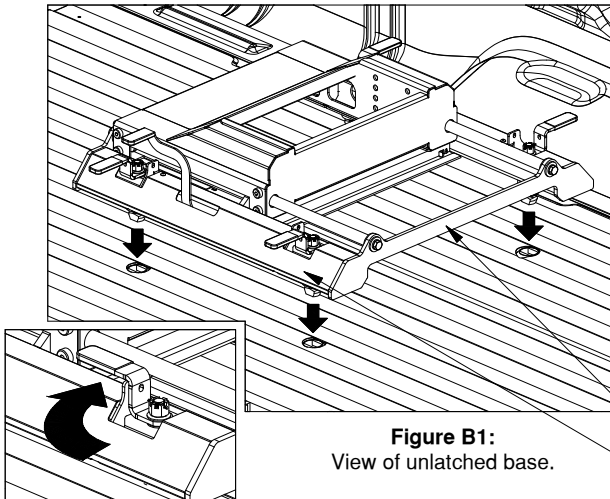

Figure B1:
CAUTION: Lifting the slider base under the sheet metal covers may cause damage to the base, grip base by end rail supports to lift, see Figure B1.
1. **Place Base.** Remove the latch pins from each side of the base and rotate the handles out, see Figure B1. Place the base over the attachment points and carefully lower it until the latch cams pass through the floor and the base rests flat against the top of the attachment points.